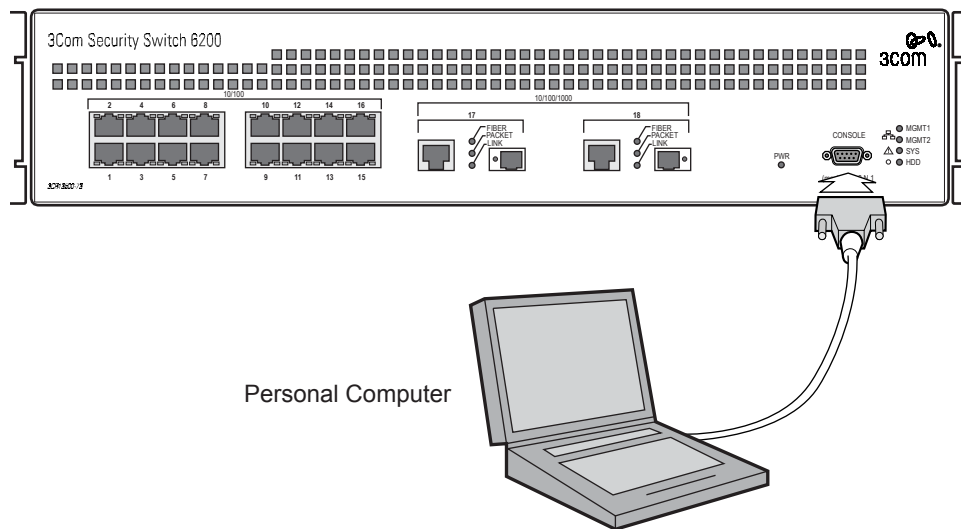

Figure 3-1 Connecting a Laptop Computer to the system Front Serial Craft Port
2. Connect the other end into the system serial craft port. Figure 3-1 shows the system connected to a laptop computer.